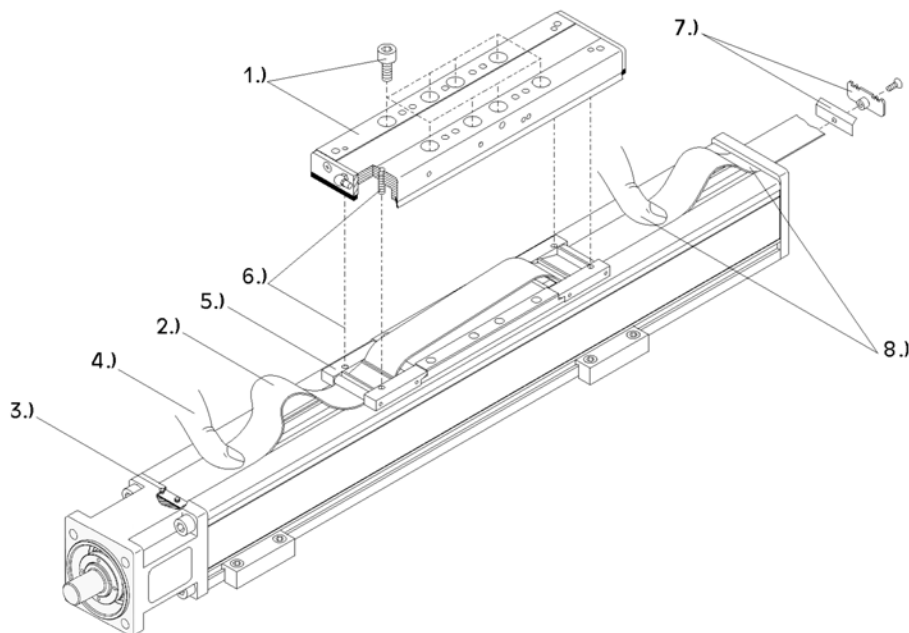

Fig. 17: Replacing the cover strip
1. **Fig. 17:** Remove the fastening screws from the sliding carriage and carefully lift the complete carriage off vertically. **Attention:** Ensure that the strip holders remain lying on the tubular profile!